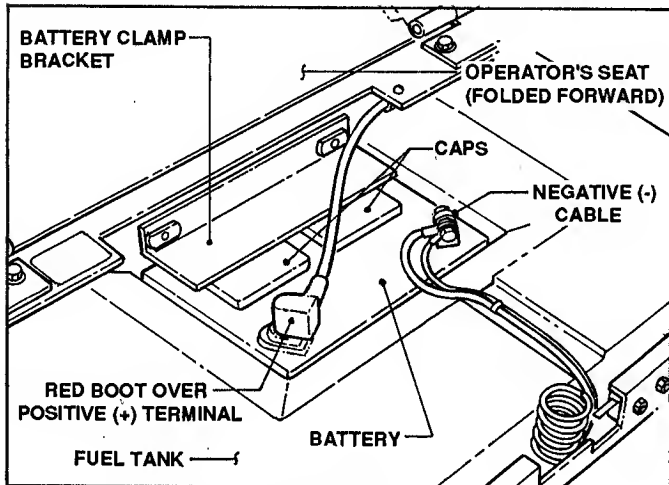

FIGURE 3.3
6. **ALWAYS** connect the Positive (+) cable to the Positive battery terminal **BEFORE** attaching the Negative (-) cable to the Negative terminal. This procedure will prevent accidental arcing should a wrench or pliers touch the tractor frame during removal or installation. **ALWAYS** disconnect the Negative (-) ground terminal first. See Figure 3.3.